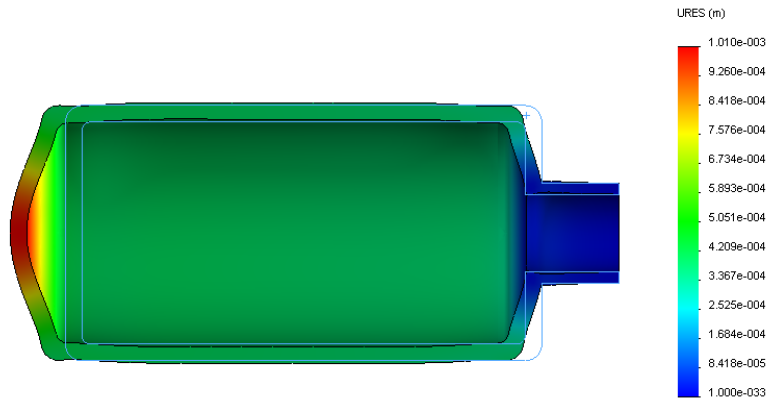

Figure 9
4. Move the cursor over the screen image to display an un-deformed outline of the model as illustrated in Fig. 9. Placing the cursor near a corner fillet or the mid-point of a wall works best.